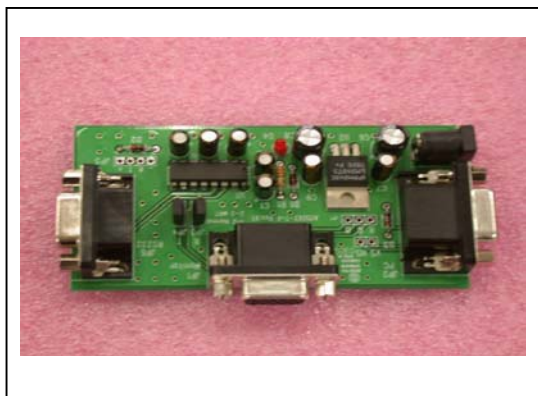

Fig 1 - Kit
- a. ISP Kit (Prepared by CMO); refer fig 1.